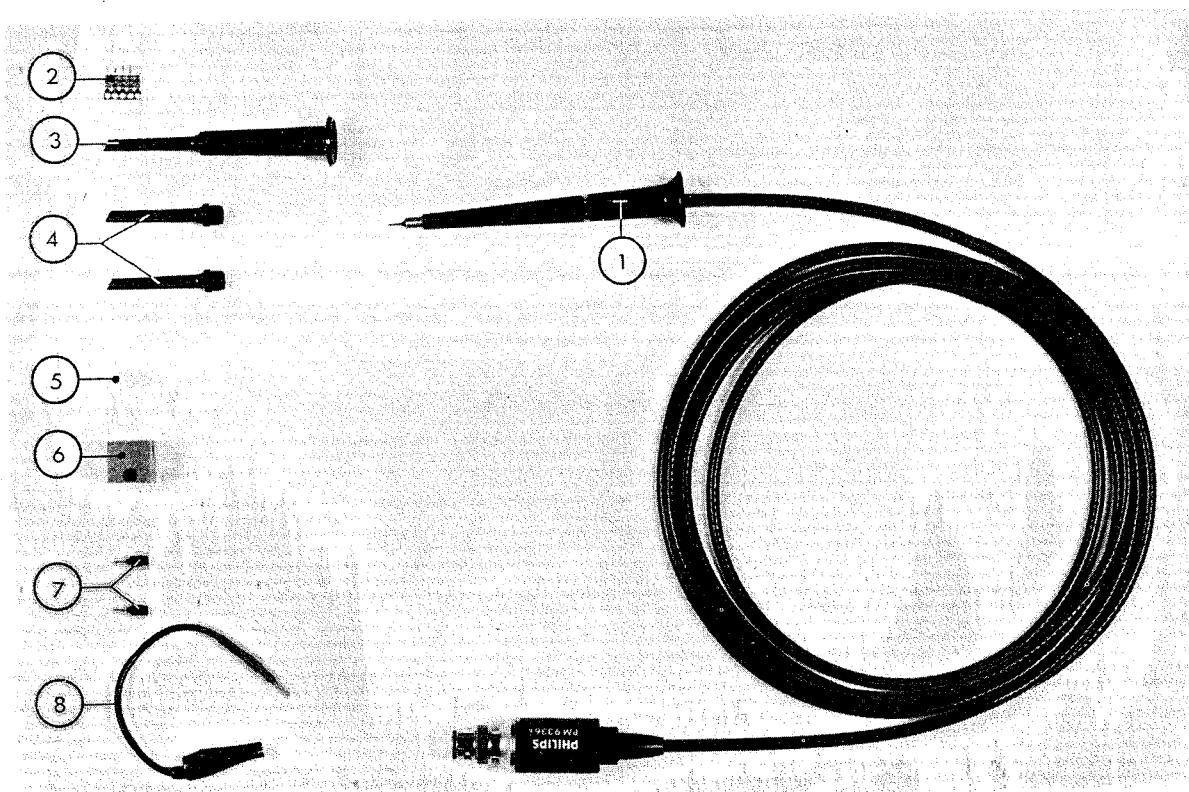

Fig. 3.26. Attenuator probe set PM 9336 (PM 9336L)
| 1 probe assembly          | Fig. 3.26. item 1 |
| 5 soldering terminals     | Fig. 3.26. item 2 |
| 1 test hook               | Fig. 3.26. item 3 |
| 2 spare test hook sleeves | Fig. 3.26. item 4 |
| 1 protective cap          | Fig. 3.26. item 5 |
| 1 probe holder            | Fig. 3.26. item 6 |
| 2 probe tips              | Fig. 3.26. item 7 |
| 1 earthing cord           | Fig. 3.26. item 8 |
### 3.5.8. MULTI-PURPOSE CAMERA PM 9380 (Fig. 3.26.)